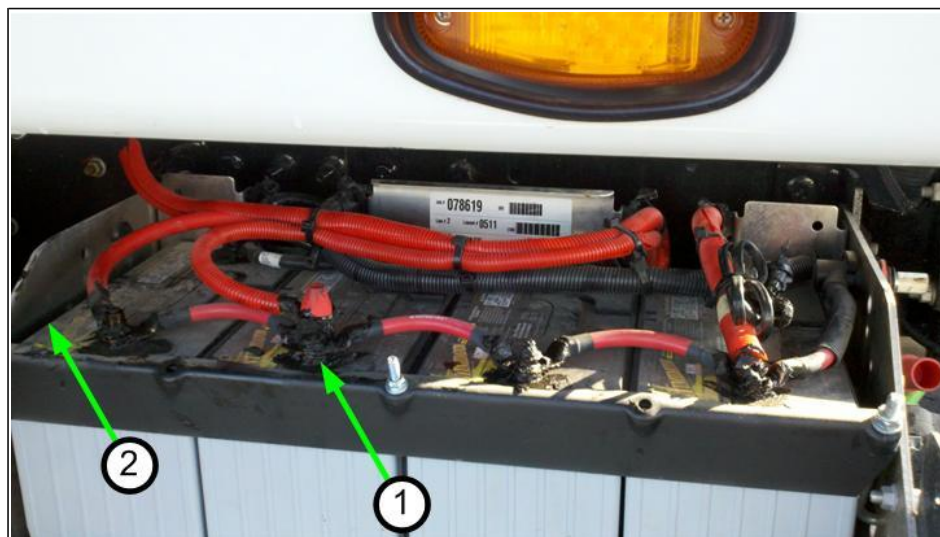

FIGURE 1
4. Inside the ProStar battery box, locate the 200A cube fuse for the primary cab power cable as shown in Figure 1. With extreme caution not to short the ratchet against exposed metal, use a 9/16" socket to remove the nut from the positive battery post. Remove the cab power cable and move it to the front of the battery box so it will not come into contact with the battery connections.